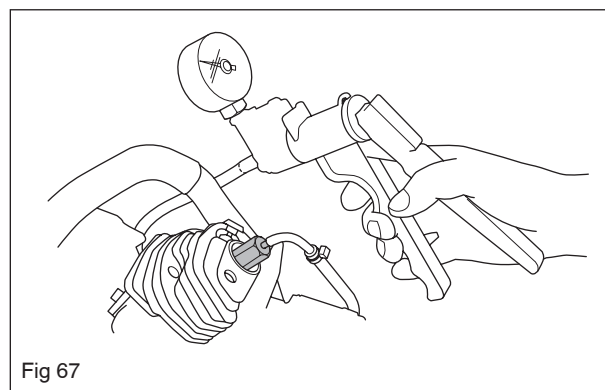

Fig 67
4. Screw the pressure test connection (Tool 13d) in place. Connect tool (Tool 8) to the nipple. See figure 67.